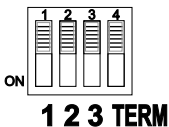

Figure 9: DIP-Switch Setup on a Single Machine
5. Set the MACHINE # DIP-switches to MACHINE # 1, according to Figure 9, that is, set all switches OFF (see Section 5.3).
By default, the **VP-1608** is setup for use as a single machine. This means that it is a 16x8 RGBHV/Balanced Audio Matrix (in audio-follow-video mode), with all setups empty and each input connected to its corresponding output (for example, input 1 to output 1). The DIP-switches are set up for a typical application using a single machine (see Figure 9):